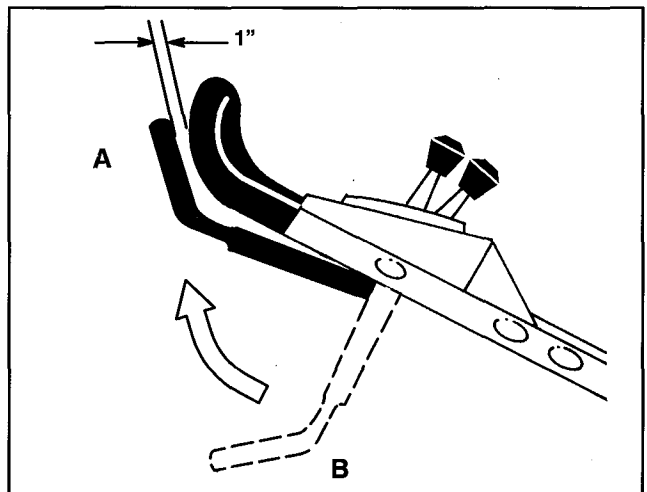

Figure 12
8. Lift control bar to the normal "blade engaged" position (about one inch below the handle) (Position A, Fig. 12). The "fan" noise indicates that the mower blade is turning.
9. Release the control bar (Position B, Fig. 12). A "bang" should be heard. The blade should stop running in three seconds.